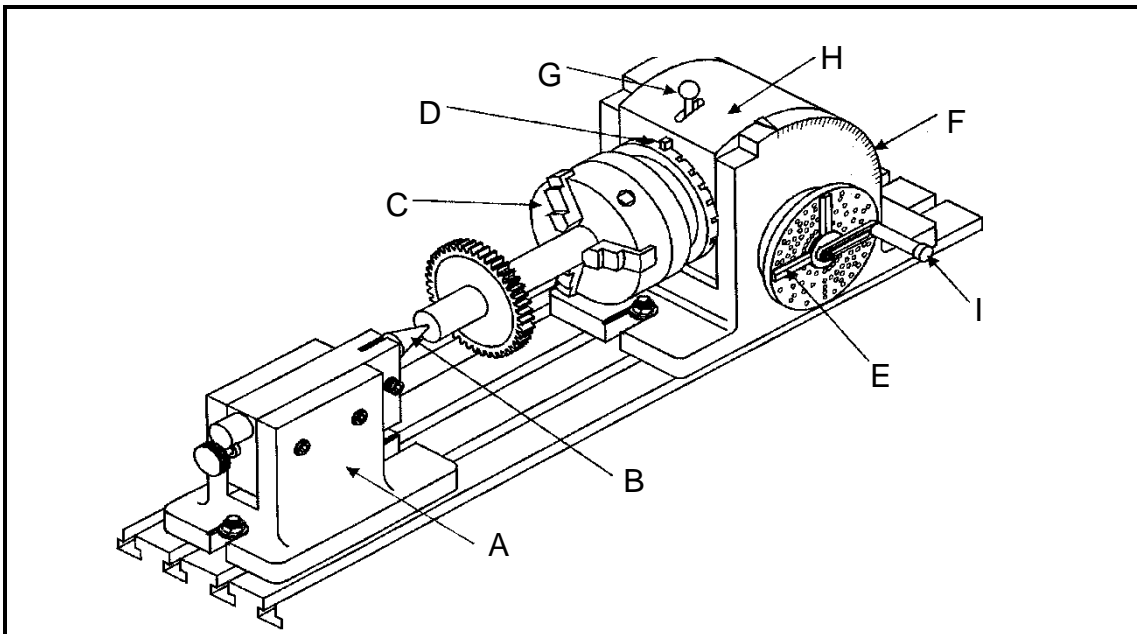

FIGURE 4
4.8 FIGURE 4 shows a dividing head of a milling machine.